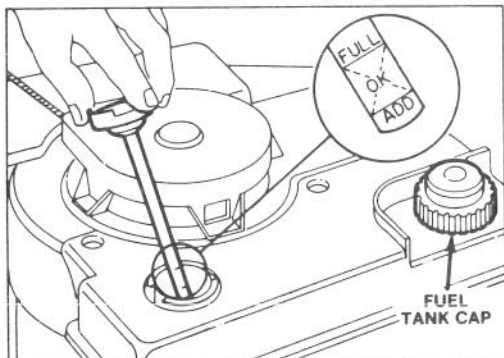

Figure 3
3. Wipe dipstick and insert it into filler neck. Rotate cap clockwise. Then remove dipstick and check level of oil (Fig. 3). If level is low, add only enough oil to raise level to FULL mark on dipstick. **DO NOT FILL ABOVE FULL MARK BECAUSE ENGINE COULD BE DAMAGED WHEN STARTED.**
1. Clean around fuel tank cap and remove cap from tank (Fig. 3). Using unleaded gasoline, fill fuel tank to within 1/2 inch (13 mm) from top of tank.